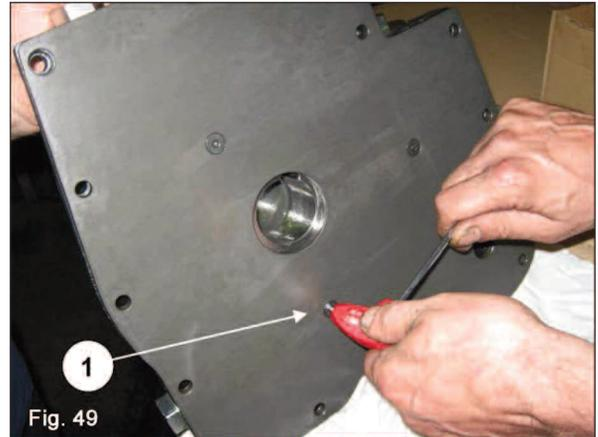
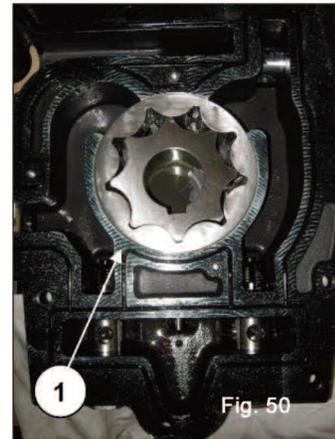

Fig. 49
Fig. 50
The correct removal procedure for the lube pump is described below. Remove the lube pump rear plate by undoing the (3) M6 screws (1, fig. 49) to gain access to the lube pump rotors, then remove the rotors (1, fig. 50).